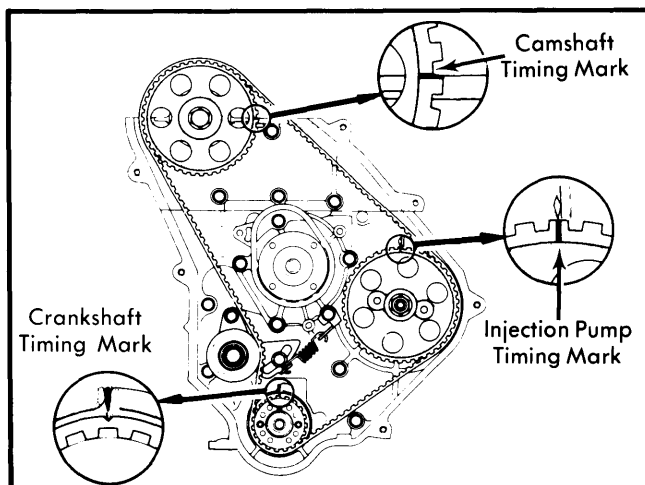

Fig. 4 Timing Mark Alignment After Turning Crankshaft 2 Revolutions
3) Install timing belt and idler spring. Turn the crankshaft 2 revolutions clockwise from TDC to TDC. While turning crankshaft make sure idler pulley bracket is moving. Ensure that each pulley aligns with marks shown in Fig. 4. Tighten timing belt idler pulley bolt. Reverse removal procedure to complete installation.